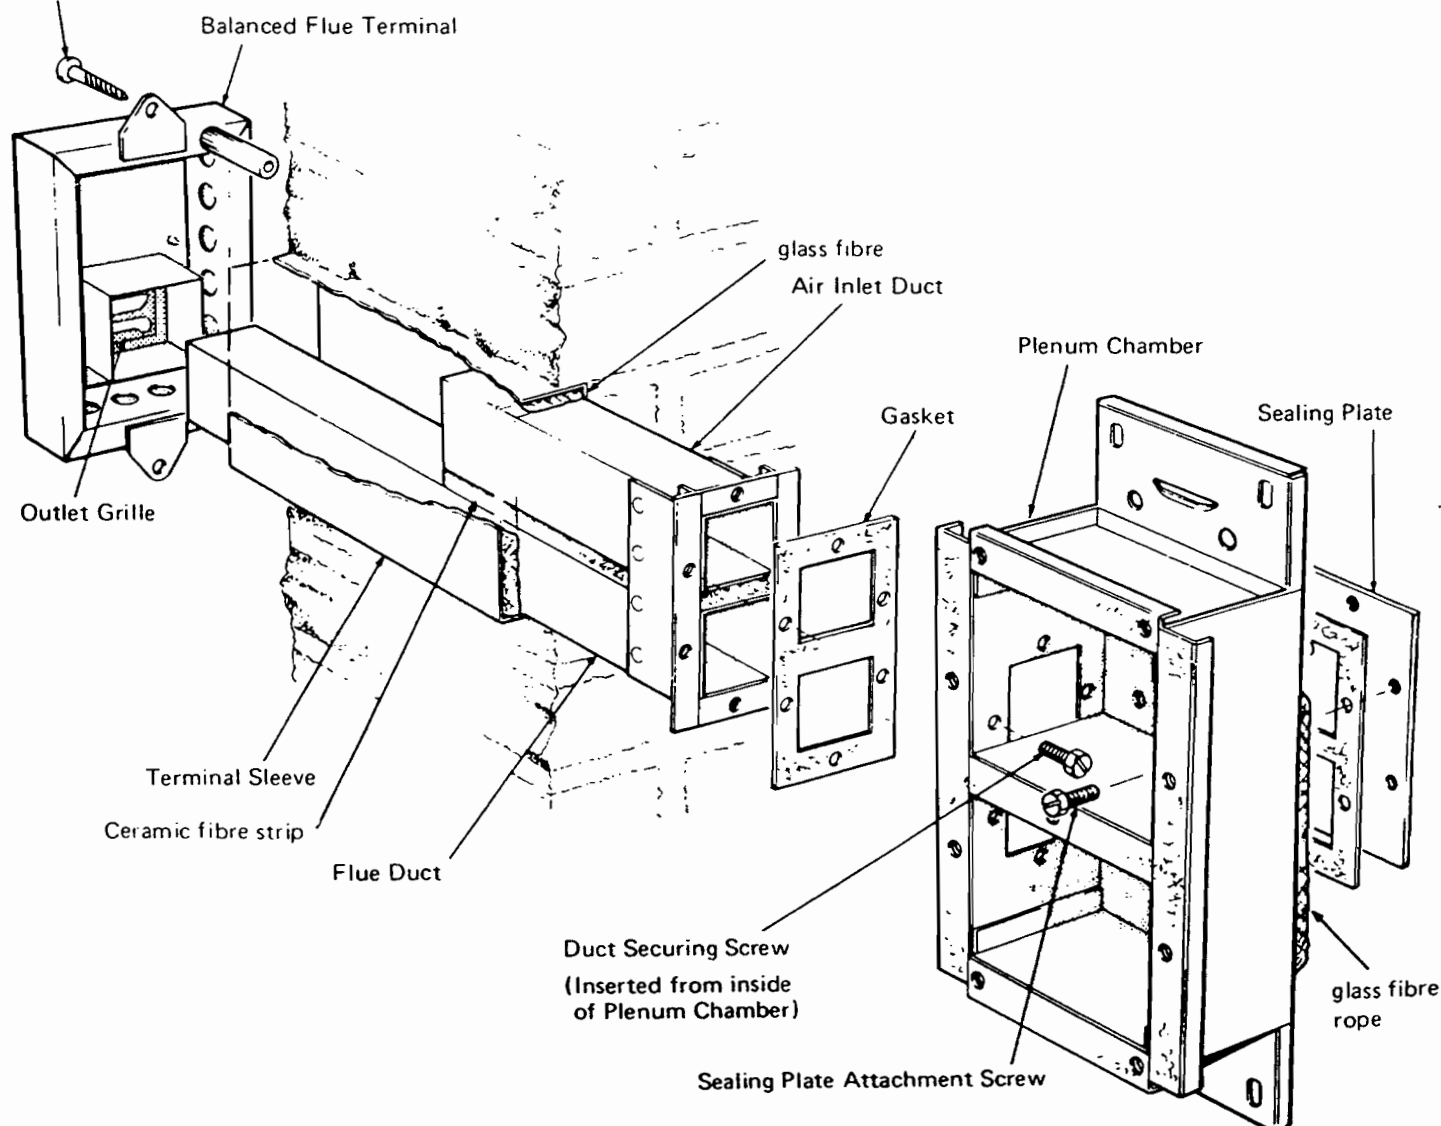

Fig. 5 ARRANGEMENT OF NETAHEAT 10/16 DUCTS
A. Potterton Netaheat 10-16 only — See Fig. 5
- (1) Fit and cut the wall liner to size, terminating it flush with the inside and outside wall faces of the building. Ensure the ends are square.
- (2) The plenum chamber has two connections for the fresh air and flue ducts, one to one side and